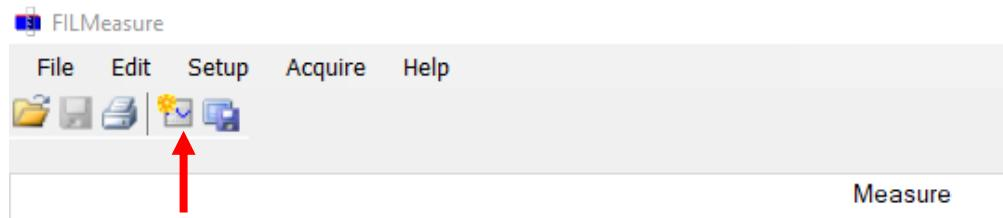

Figure 5. “Clear Graph” Icon of FILMeasure Software
4. Click the “Measure” tab. If there is any previous data, click the “Clear Graph” icon (the 4th one on top) as shown in Figure 5.